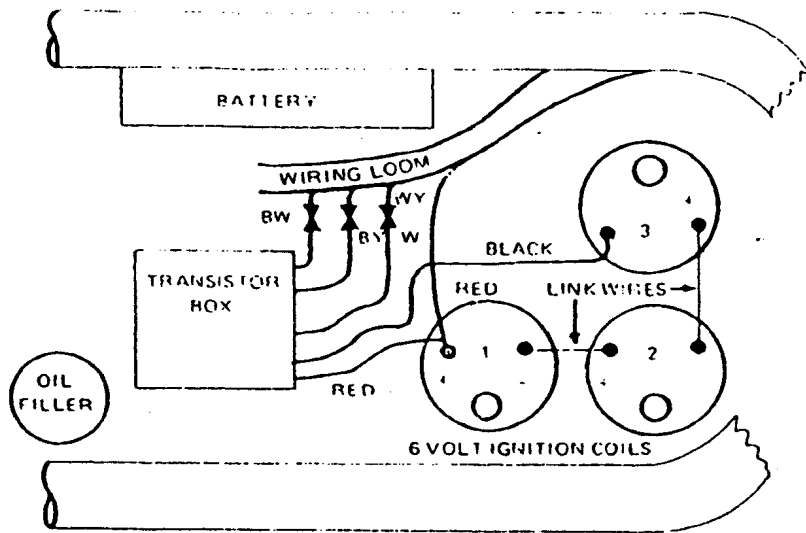

FIG. 1
- 8) Connect the red wire to the positive (+) terminal of ignition coil no.1 See Fig.1
- 9) Using the two coil link wires join the coils as in Fig.1
- 11) Connect the red wire from the transistor box to the positive (+) terminal of ignition coil no.1, this is the same connection as used in step 8, the coil having a double connector. See Fig.1
- 12) Connect the black wire from the transistor box to the negative terminal of ignition coil no.3 See Fig.1